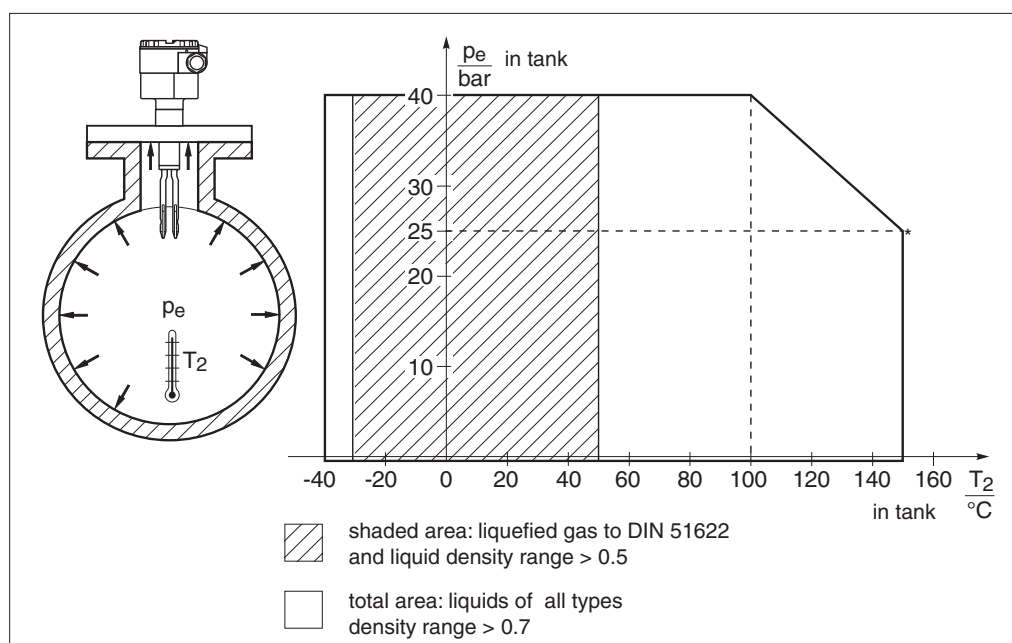

Fig. 23
- Operating temperature and pressure: see Fig. 23